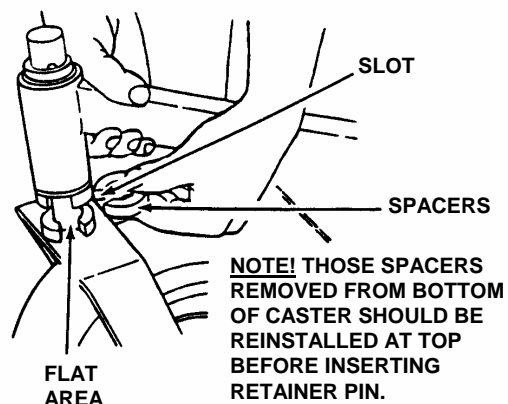

FIGURE 3.12
2. Lift Caster Support Tube while adding or removing the bottom Spacer. See Figure 3.12.